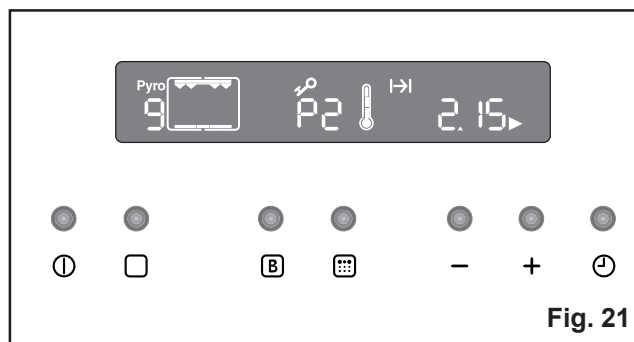

Fig. 21
5. After some time, the door lock will be activated and the related symbol  will be displayed (Fig. 21). At this time the button  is no more active.